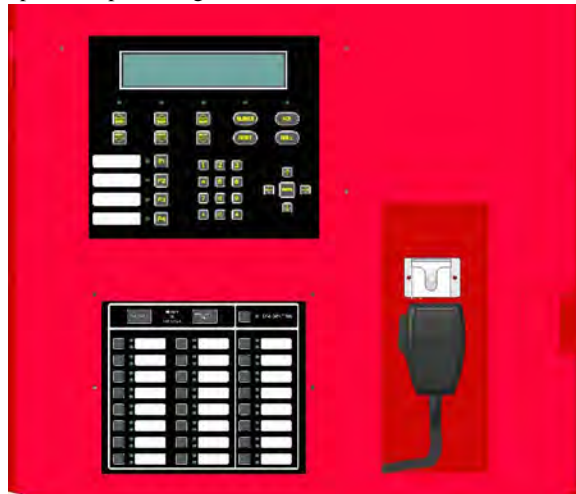

Figure 4.7 Hang Microphone on to Microphone Clip
1. Clip the microphone into the microphone clip. See Figure 4.7.